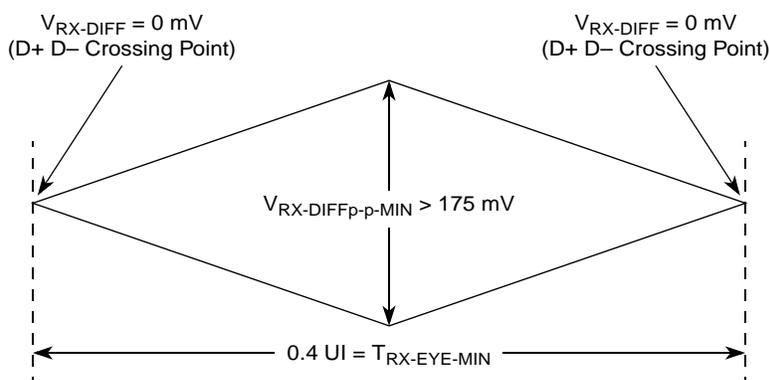
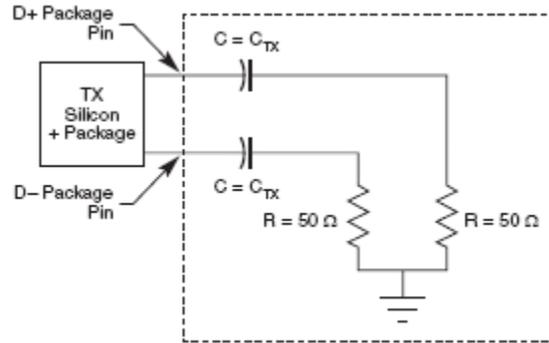

Figure 50. Minimum Receiver Eye Timing and Voltage Compliance Specification
Figure 51. Compliance Test/Measurement Load
2. Specified at the measurement point into a timing and voltage compliance test load as shown in Figure 51 and measured over any 250 consecutive TX UIs. (Also refer to the transmitter compliance eye diagram shown in Figure 49.)
4. The transmitter input impedance shall result in a differential return loss greater than or equal to 12 dB and a common mode return loss greater than or equal to 6 dB over a frequency range of 50 MHz to 1.25 GHz. This input impedance requirement applies to all valid input levels. The reference impedance for return loss measurements is 50 Ω to ground for both the D+ and D- line (that is, as measured by a vector network analyzer with 50- Ω probes, see Figure 51). Note that the series capacitors, C_{TX} , is optional for the return loss measurement.
5. Measured between 20%–80% at transmitter package pins into a test load as shown in Figure 51 for both V_{TX-D+} and V_{TX-D-} .
The RX eye diagram in Figure 50 is specified using the passive compliance/test measurement load (see Figure 51) in place of any real PCI Express RX component. In general, the minimum receiver eye diagram measured with the compliance/test measurement load (see Figure 51) is larger than the minimum receiver eye diagram measured over a range of systems at the input receiver of any real PCI Express component. The degraded eye diagram at the input Receiver is due to traces internal to the package as well as silicon parasitic characteristics which cause the real PCI Express component to vary in impedance from the compliance/test measurement load. The input receiver eye diagram is implementation specific and is not specified. RX component designer should provide additional margin to adequately compensate for the degraded minimum Receiver eye diagram (shown in Figure 50) expected at the input receiver based on an adequate combination of system simulations and the return loss measured looking into the RX package and silicon. The RX eye diagram must be aligned in time using the jitter median to locate the center of the eye diagram.
The reference impedance for return loss measurements is 50 Ω to ground for both the D+ and D- line (that is, as measured by a Vector Network Analyzer with 50 Ω probes—see Figure 51). Note that the series capacitors, $C_{PEACCTX}$, are optional for the return loss measurement.
The AC timing and voltage parameters must be verified at the measurement point, as specified within 0.2 inches of the package pins, into a test/measurement load shown in Figure 51.